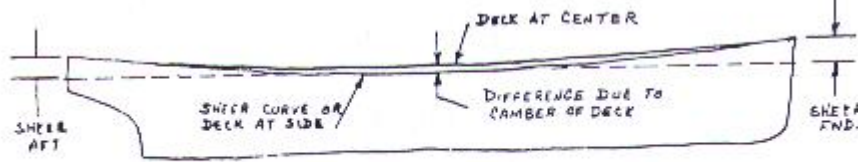
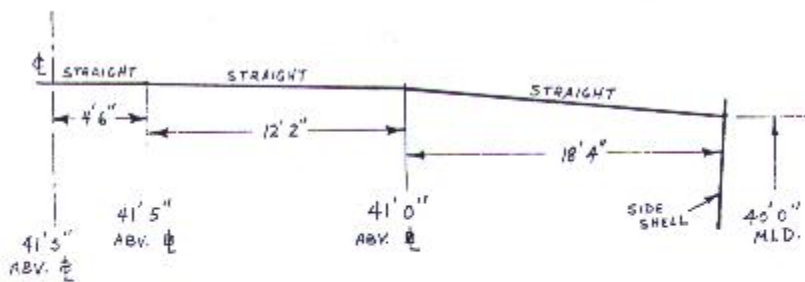

FIG. 4 -- Sheer Curve
FIG. 5 -- Camber Curve -- (Composed of Straight Lines)
**PROFILE** ---- A view looking at the moulded lines from starboard to port. The waterlines and the frame lines are straight when observed from this direction. The deck line, or "sheer" curve (Figure 4) shows up clearly in the profile, which for this reason is sometimes called the sheer plan.
**SHEER** ---- The curvature of the deck at side as shown in the profile. The amount of sheer forward is the difference in height between the deck line (at side) amidships and the deck line at the forward end (see Fig. 4) The amount of sheer aft is the difference in height between the deck (at side) amidships and the deck at the after end. The line of the deck at center, in the profile, is higher than the line of the deck at side, owing to the camber, or transverse curvature of the deck. In Fig. 4 is illustrated the difference between the deck at the side and the deck at the center, owing to camber. The camber curve, as usually designed, is a circle of very large radius, but sometimes it is made as a series of straight lines, as in Fig. 5. The camber curve is the moulded line of the deck.